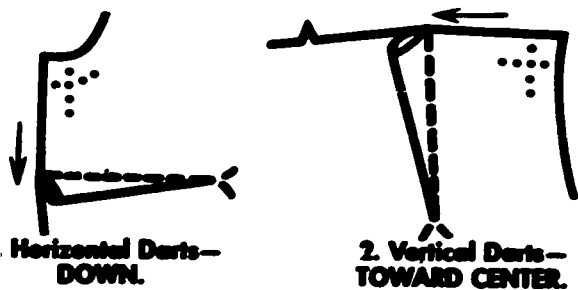

Fig. 9
**DART** - shaped tuck taken to fit garment to the figure; as the waistline dart, hip dart, shoulder dart, etc. (Fig. 9.)